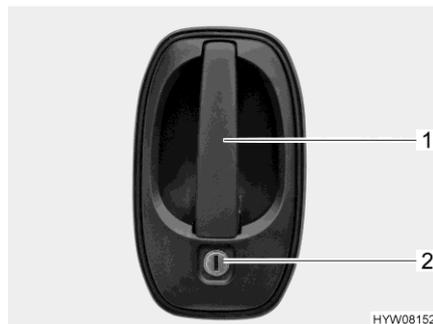

Fig. 52 Door lock (driver's door/conversion door, outside)
- Insert the key into locking cylinder (Fig. 52,2) and turn until the door lock is unlatched.
- Pull on the door handle (Fig. 52,1). The door is open.
- Insert the key into locking cylinder (Fig. 52,2) and turn until the door lock is engaged.